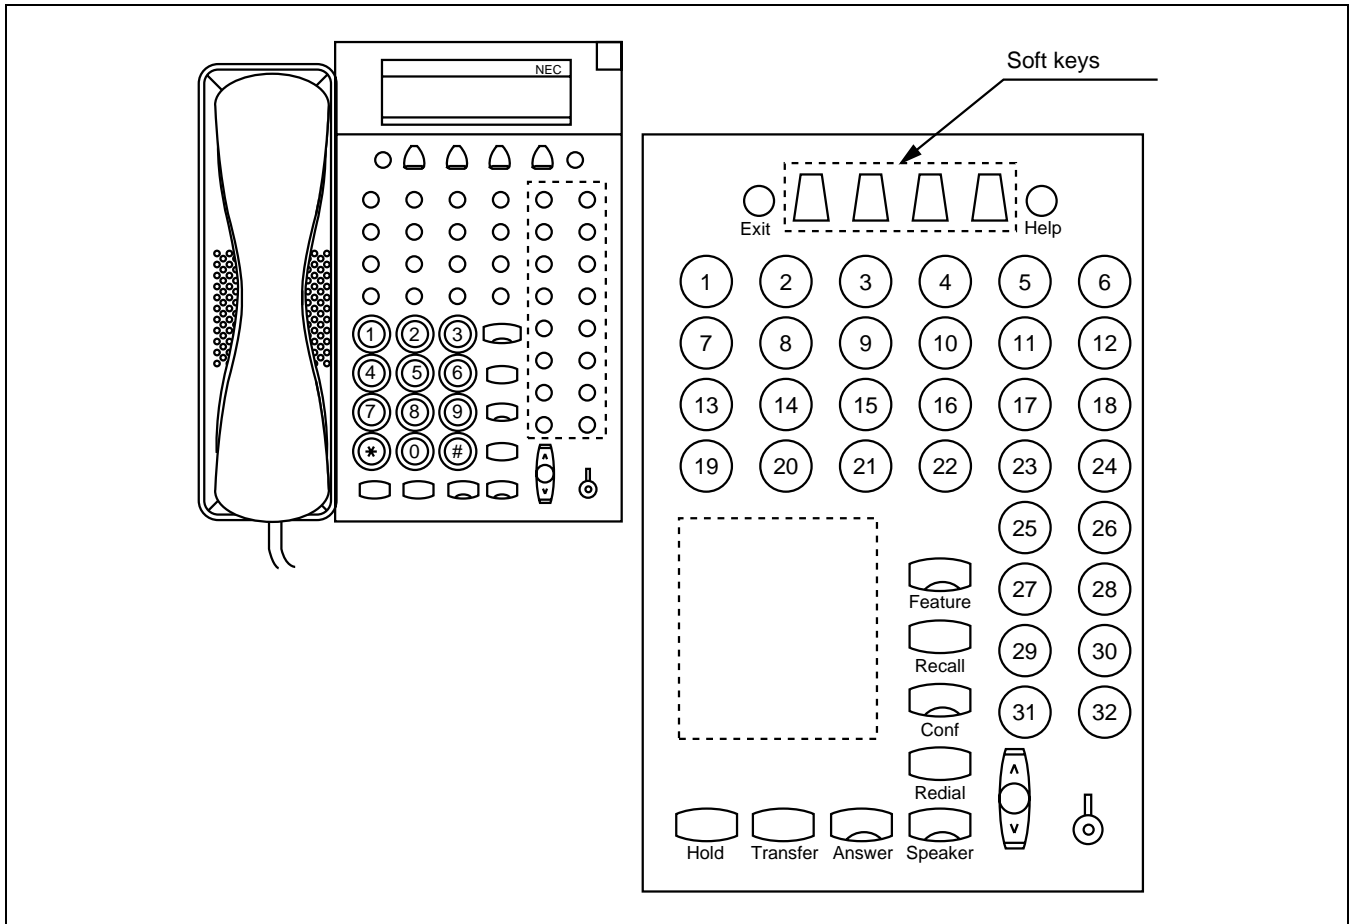

Figure 4-13 D^{term} Series E Key Arrangement
- Four soft keys appear on a D^{term} Series E as shown in Figure 4-13. The function of the soft key varies depending on the status and current functions involved which are displayed on the bottom line of LCD.